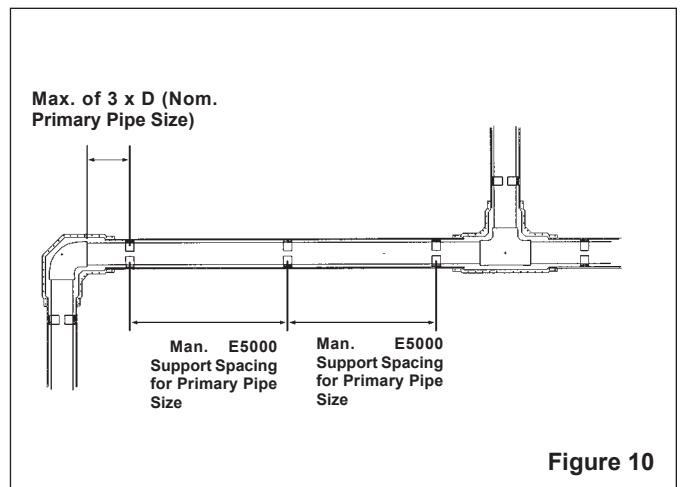

Figure 10
A. Centralizers, Supports, and Guides—Primary centralizers (and anchors) are required for systems with thermal expansion and/or contraction (see Para. B, Anchors). Spacing of centralizers can be determined from the support spacing information in Manual No. E5000 (Engineering & Design Guide). **DO NOT** put centralizers next to containment fittings. As a general rule, the support spacing must be reduced so the centralizers are located at a maximum distance of three times the primary pipe diameter from the primary fitting (see Fig. 10). **Note: In all cases, centralizers must be at least 6" away from the end of the containment fitting.**